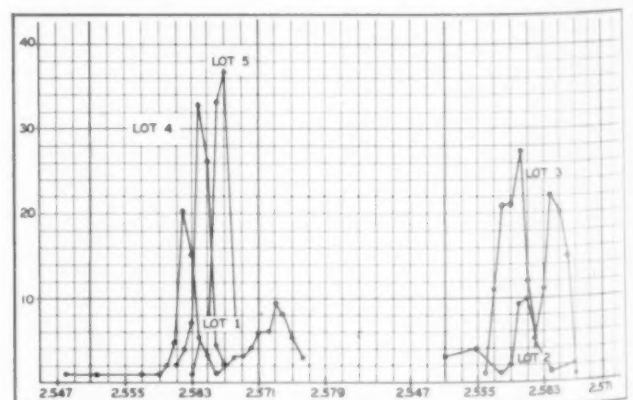

Fig. 11. Frequency polygon charts for latch bar investigation.
1. Based on the frequency distribution chart as illustrated in Fig. 10 and the graphically illustrated frequency distribution (Fig. 11) the first lot has approximately 32 percent of its values out of control. The tool set-up may have changed, or possibly there was a faulty measurement. In either case, a decision of acceptance would be based upon 100 percent inspection on the basis of "Go or No Go."
Fig. 11 (right) features hydraulic operation, was used to weld drip strip (11) on tube (10). Thin wall of tube made support necessary; hydraulic mandrel was solution. Parts 14, 15, 17, 18 are hard copper machined to fit; part 16 is soft rubber tube held in place by expander (24) pulled in position by rod (25), which is then removed. Connection (22) and tube (20) are held by recesses in parts 14 and 15. Keys 17 and 18 are held rigidly to part 15 but are free to float in part 14 during operation. Mandrel slides into tube, pressure of 800-100 psi is applied. Strip is then welded to tube in two passes between seam welding wheels 12 and 13. Modification shown may be used to weld a lap seam tube where keys 28 and 29 limit travel of mandrel body 26 and 27. Many modifications have proved satisfactory.
Hydraulically-operated devices are sometimes used to advantage as welding fixtures. A fixture of this type is pictured in Fig. 11. It was necessary to seam-weld a drip strip (11) on a tube (10). Since the tube was 2 in. diameter and 16 ft. long, the thin wall of the tube made it necessary to support the tube internally to prevent crushing during welding. If a solid mandrel was used a slight shrinkage of the tube during welding locked the tube so tight to the mandrel that it could not be removed. The final solution was the use of a hydraulic mandrel.